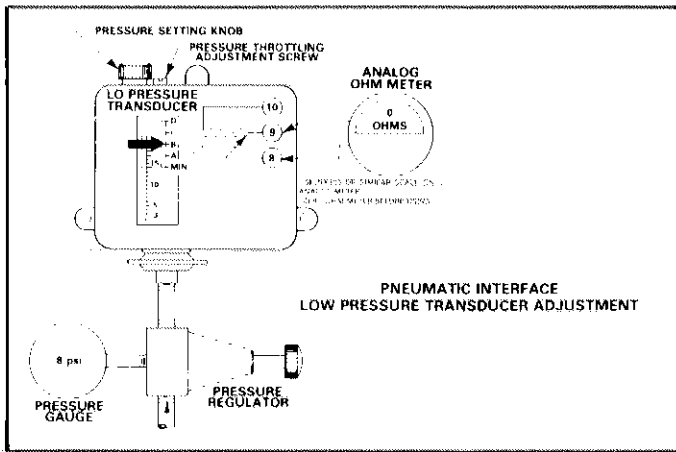
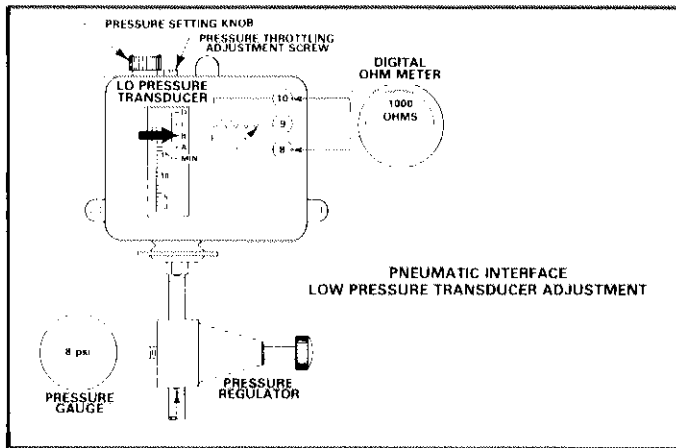

FIGURE 111
FIGURE 112
3 - If using an analog OHM meter connect to terminals 8 and 9 as shown in Figure 111. If using a digital OHM meter leave wiring connected to terminals 8 and 10 as shown in Figure 112.
- 5 - Adjust throttling adjustment screw. Start from "C" position and move toward "MIN" until no further resistance increase is noted. Value should be approximately zero OHMs using an analog meter. Setting should be approximately "B". See Figure 111 for analog meters or Figure 112 for digital meters.